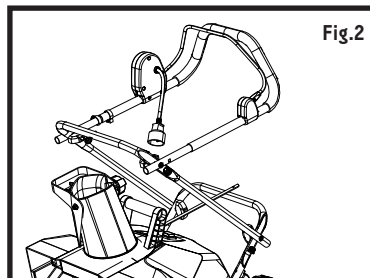

Fig.2
1. For easy assembly, the unit comes complete with most parts already connected. To complete the handle assembly, simply pull the middle frame back and pull the upper frame up (Fig. 2).